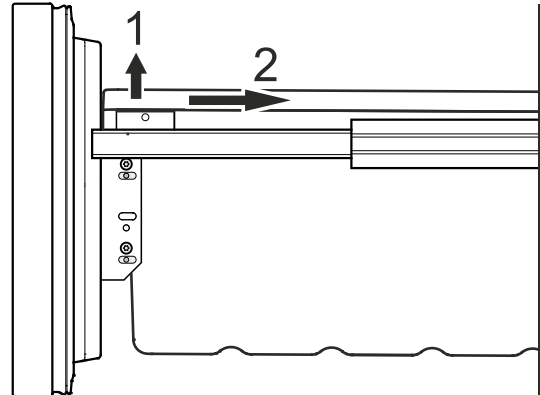

Figure 21
- Unlatch the container on the left and right corners by pulling upwards (1) - **Figure 21**.
- Slide the container backwards (2) - **Figure 21**.